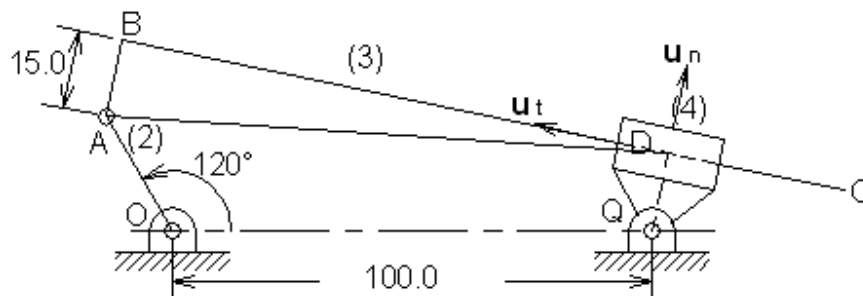

Figure P2.27
2.27 Make a complete velocity and acceleration analysis for the mechanism shown in Figure P2.27. The angular velocity of the crank OA is 24 rad/sec clockwise. What is the absolute velocity and the acceleration of point C?